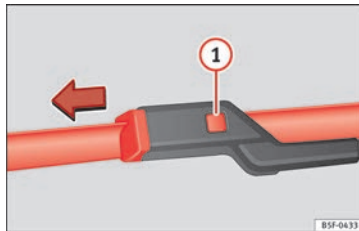

Fig. 75 Changing the windscreen wiper blade.
- Press the securing tab down ① »» Fig. 75.